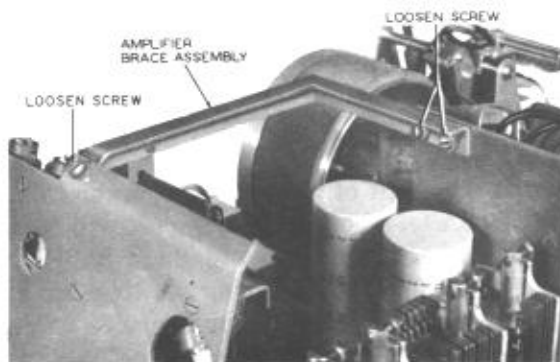
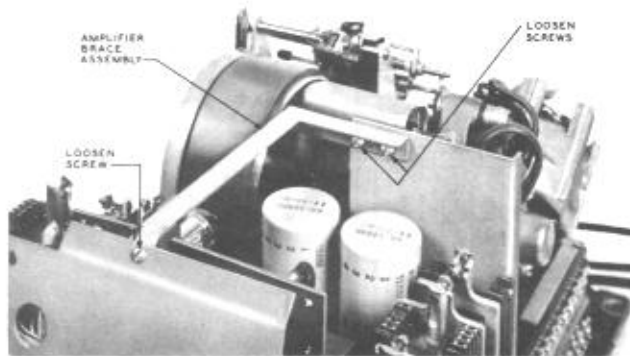

Fig. 3 — Amplifier Brace Assembly — Early Type Sets
Fig. 4 — Amplifier Brace Assembly — Standard Sets
2. For early type sets loosen the screws shown in Fig. 3 and remove the amplifier brace assembly. For standard sets loosen the screws shown in Fig. 4 and remove the amplifier brace assembly.